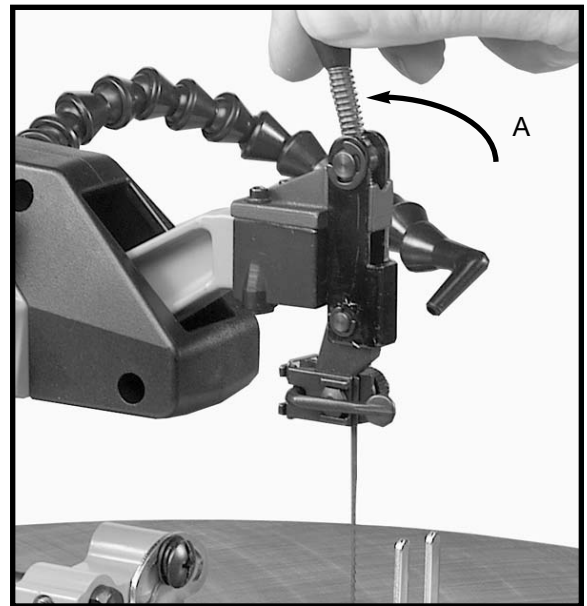
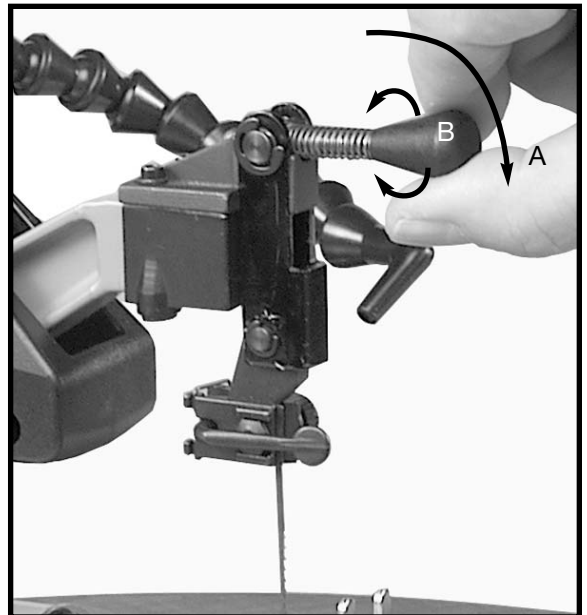

Fig. 15
Fig. 16
Tension is applied to the blade when the blade tension lever (A) Fig. 15, is in the rear position, as shown. When the lever (A) is moved forward, as shown in Fig. 16, blade tension is released.
To increase blade tension, turn lever knob (B) Fig. 16, clockwise and to decrease blade tension, turn knob (B) counterclockwise. When adjusting blade tension, lever (A) should be in the forward position, as shown in Fig. 16. **NOTE:** It is necessary to adjust the blade tension knob (B) only when the blade is removed from both upper and lower blade holders and a new or different type of blade is assembled to the holders. It is not necessary to adjust blade tension when the blade is removed and replaced in only the upper blade holder as in performing inside cutting operations.
Adjusting the blade for proper tension is usually accomplished by trial and error; however, a good method to use is to pluck the rear of the blade, like a guitar string, after the tension lever (A) Fig. 15, is moved to the rear. A high-pitched tone of the blade should be heard and this usually indicates proper tension. Finer blades require more tensioning (a higher pitched sound) while thicker blades require less tension.
6. Apply lightweight grease or anti-sieze to lubricate the tensioning lever (A) Fig. 15 where it pivots on the upper chuck .